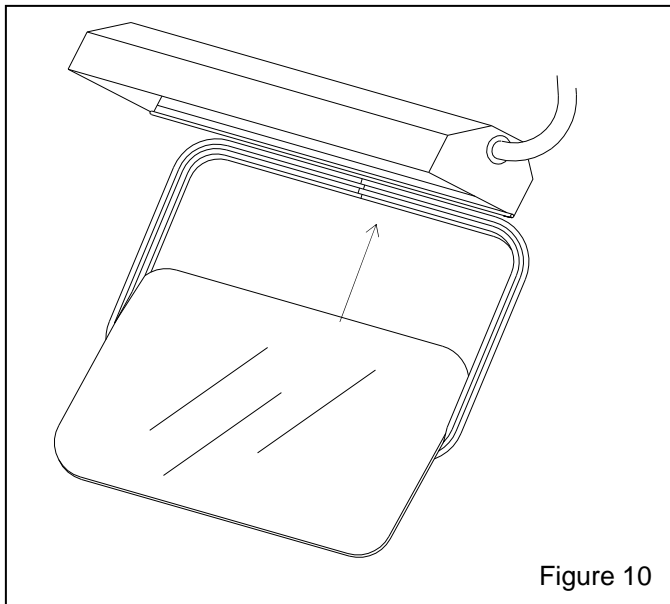

Figure 10
**6.3.6** Spray silicone lubricant into the window channel (wide channel) on the molding, and slide the window into the channel, as shown in Figure 10. Place an arm into a glove to support the top edge of the bottom side of the window with one hand, while guiding the top edge into the molding with the other.